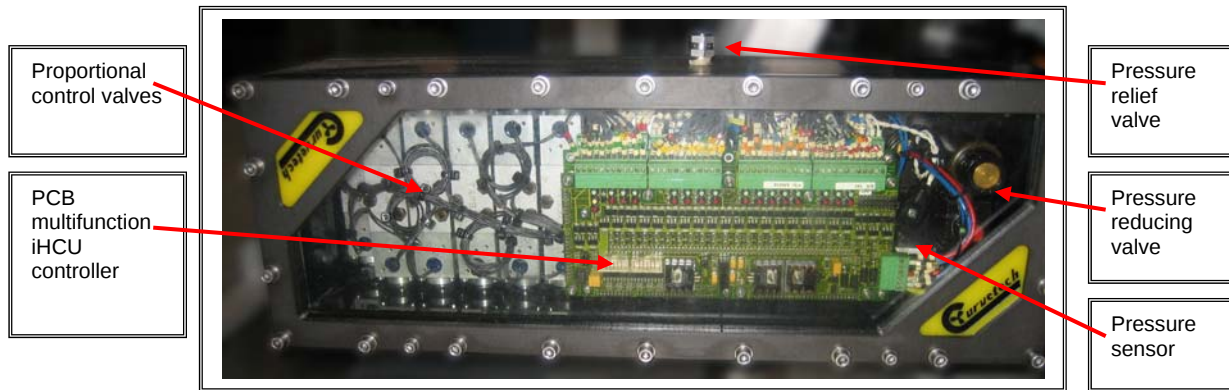

Figure 4 – 12-Function HCU Valve Pack
- The ROV is fitted with one 12-function HCU (Figure 4).